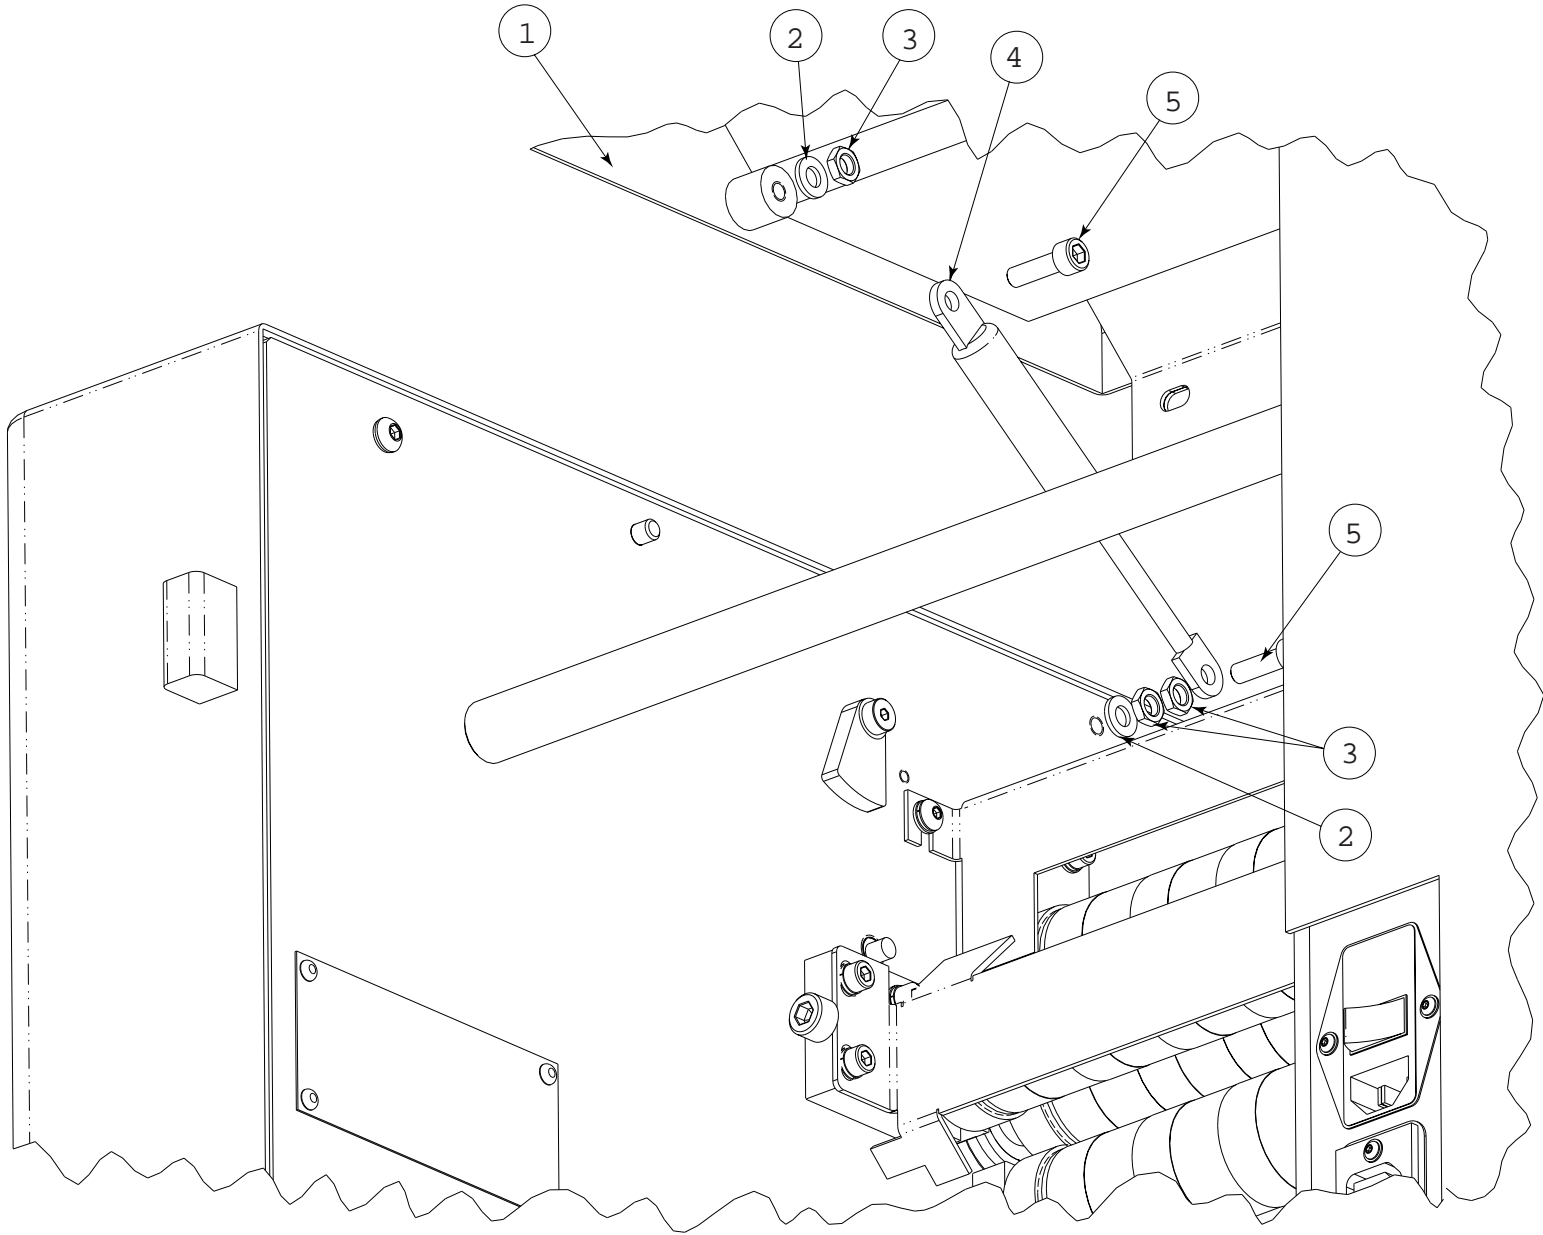

Figure 4
9) As in Figure 4, attach Item 4 to the non operator folder frame using Items 2, 3 & 5.
10) Repeat 9) above to attach Item 4 to the top cover Item 1.(Figure 4)